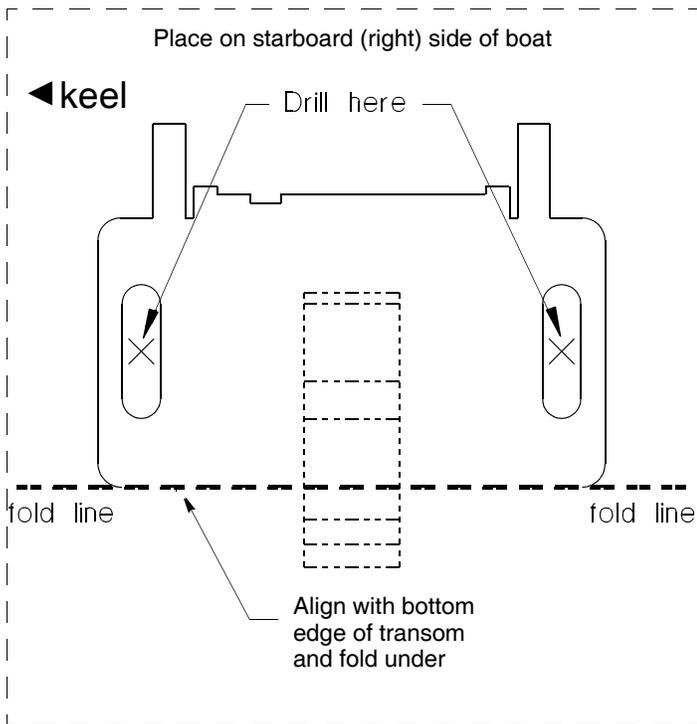

Figure 2. Template
1. Cut-out the template printed on this page. Fold the template along the fold-line (see Figure 2).